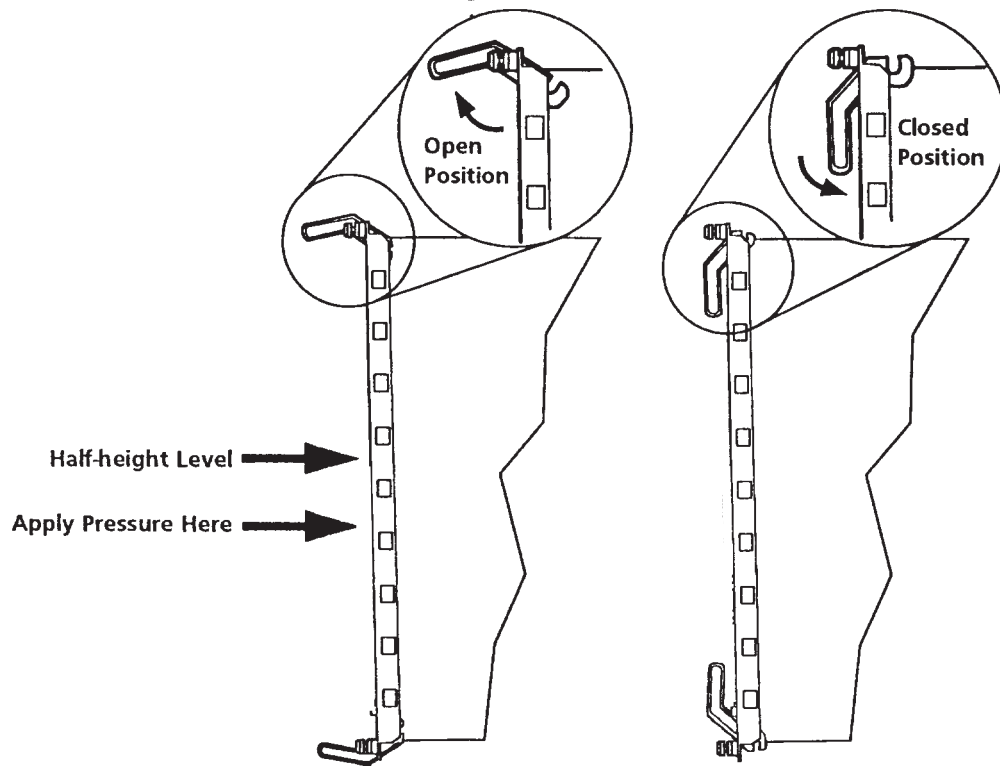

Figure 22. 8285 Module Ejectors
3. Insert the A8-WAN module into the slot in the expansion unit as shown in Figure 21, matching the left and right board guides as you slide the module cleanly into place (by pressing evenly on the top and bottom of the faceplate). Do not attempt to push the module all the way in until you have verified that the left and right module ejectors are OPEN (see Figure 22 on page 38.)